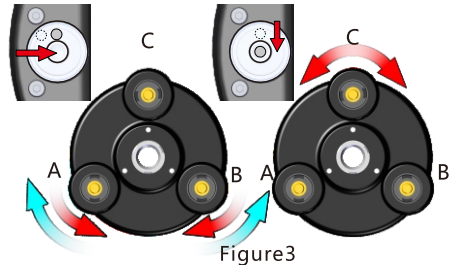

Figure3
- ④ Move bubble to the centre of circle by adjusting the footscrews. (Figure 3) Adjust A and B screws to move bubble left and right then adjust C screw to move bubble into the centre circle.